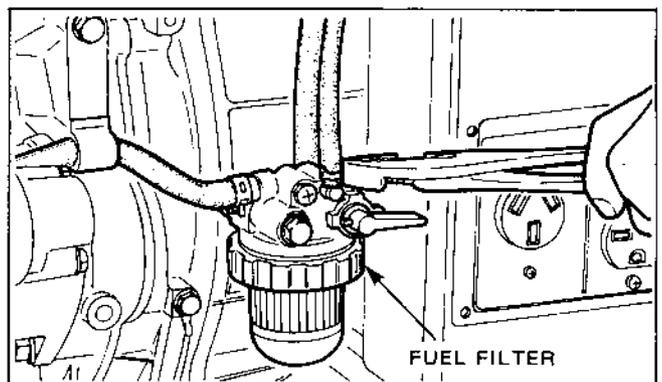

Fig. 10-4
| | | (4) Remove the fuel filter. 1. Remove the hose clamp, and pull out the air return pipe. (See Fig. 10-4.) 2. Remove the fuel filter bolts and the fuel filter. | | Pliers 12 mm spanner or box spanner |